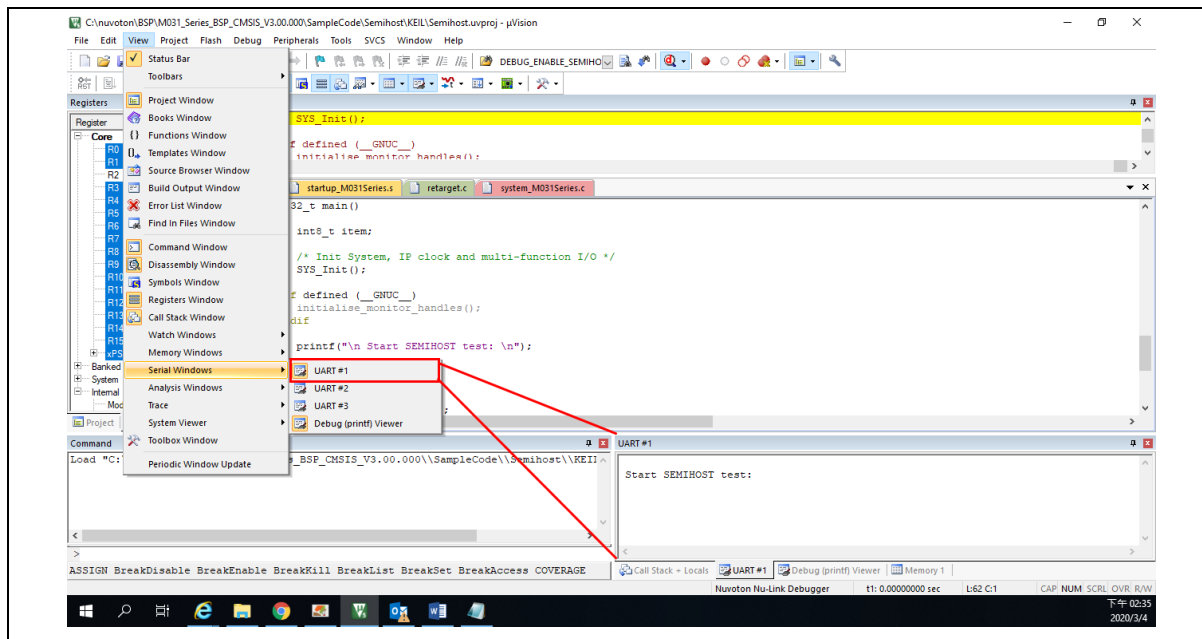

Figure 4.1-4 Semihost Options in Keil MDK Debug Mode
When using the Semihost function, the message of the NuMicro® Family microcontroller can be output through UART to the debug window by the Nu-Link2-Pro. That is, the message is output without the GPIO. Figure 4.1-4 shows the debug messages in the "UART #1" form, which are the messages output by the Nu-Link2-Pro.
Step 3: In Debug mode, invoke **View** → **Serial Windows** → **UART #1**, as shown in Figure 4.1-4.